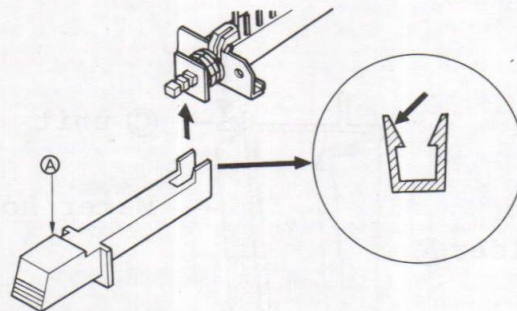

Fig. 4
As shown in Fig. 4 (figure at right), this button holds the switch with catches provided on both sides. It will come off when the catch part on one side is widened in the direction of the arrow, while at the same time pushing the (A) part upward and sort of prying the button.